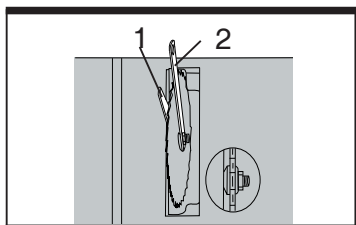

Fig 4
- 3) Use the supplied open end spanner (1) to keep the arbor from turning and place the supplied box-end spanner (2) on the arbor nut, and turn counterclockwise to loosen the arbor nut (See fig. 4).
- 6) Assemble the arbor flange and arbor nut back to the saw arbor and tighten the arbor nut by turning the supplied box-end spanner (2) clockwise (to the rear of the saw table).